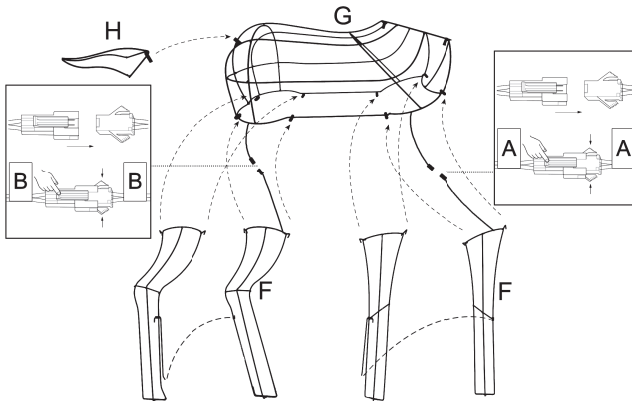

Fig.4
1. Insert the metal hook of legs (F) into the corresponding metal cylinder of body (G). (see Fig.4)
2. Connect the front legs and back legs with the Rod. (see Fig.4)
3. Insert the metal hook of tail (H) into the corresponding metal cylinder of body (G). (see Fig.4)